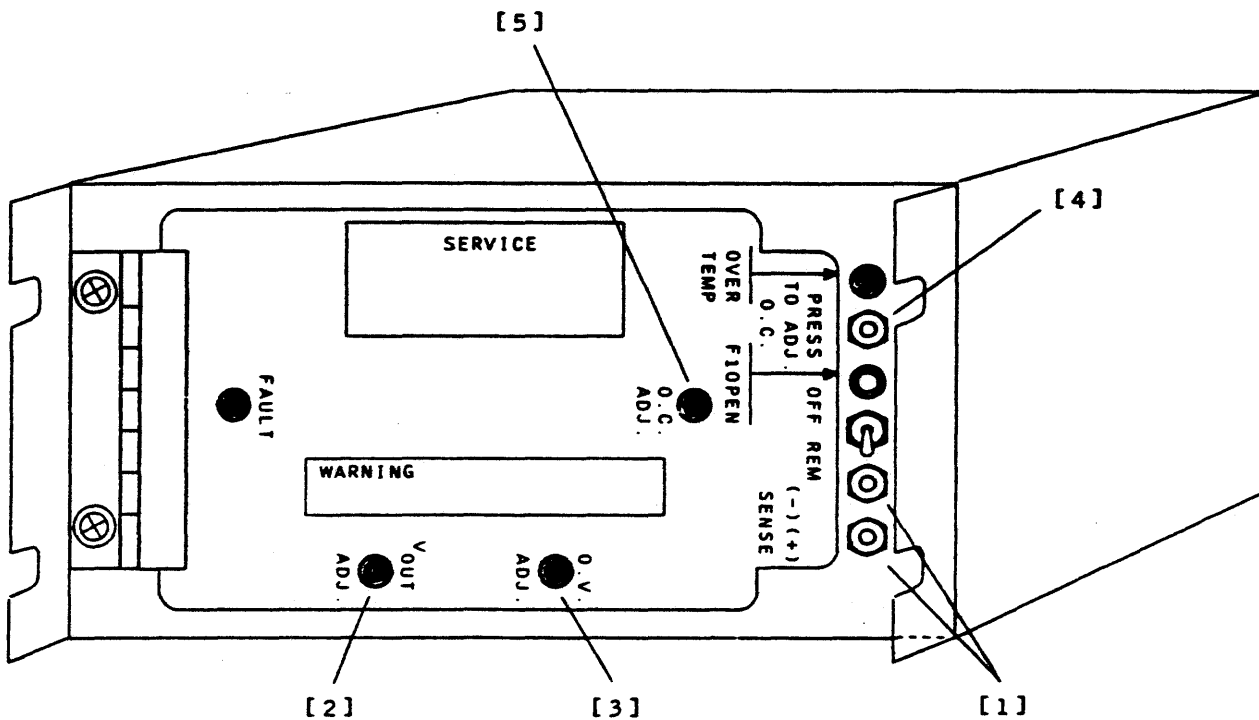

FIGURE 3.7-1. POWER REGULATOR MODULE (58048580) ADJUSTMENT
1. Using a digital voltmeter (DC function), carefully insert the leads into their respective test points on the regulator (see Figure 3.7-1, [1]).
- o Turn the V.O. adjustment clockwise until a reading of 10% above normal is obtained, e.g., 5.50 volts (see Figure 3.7-1, [2]).
NOTE: If an O.V. condition does not occur, turn the O.V. adjustment (see Figure 3.7-1, [3]) counterclockwise until it does occur.
- o Press and release the PRESS TO ADJUST O.C. switch (see Figure 3.7-1, [4]).
NOTE: If an O.C. condition does not occur, adjust the O.C. adjustment (see Figure 3.7-1, [5]) counter-clockwise while depressing the O.C. switch.